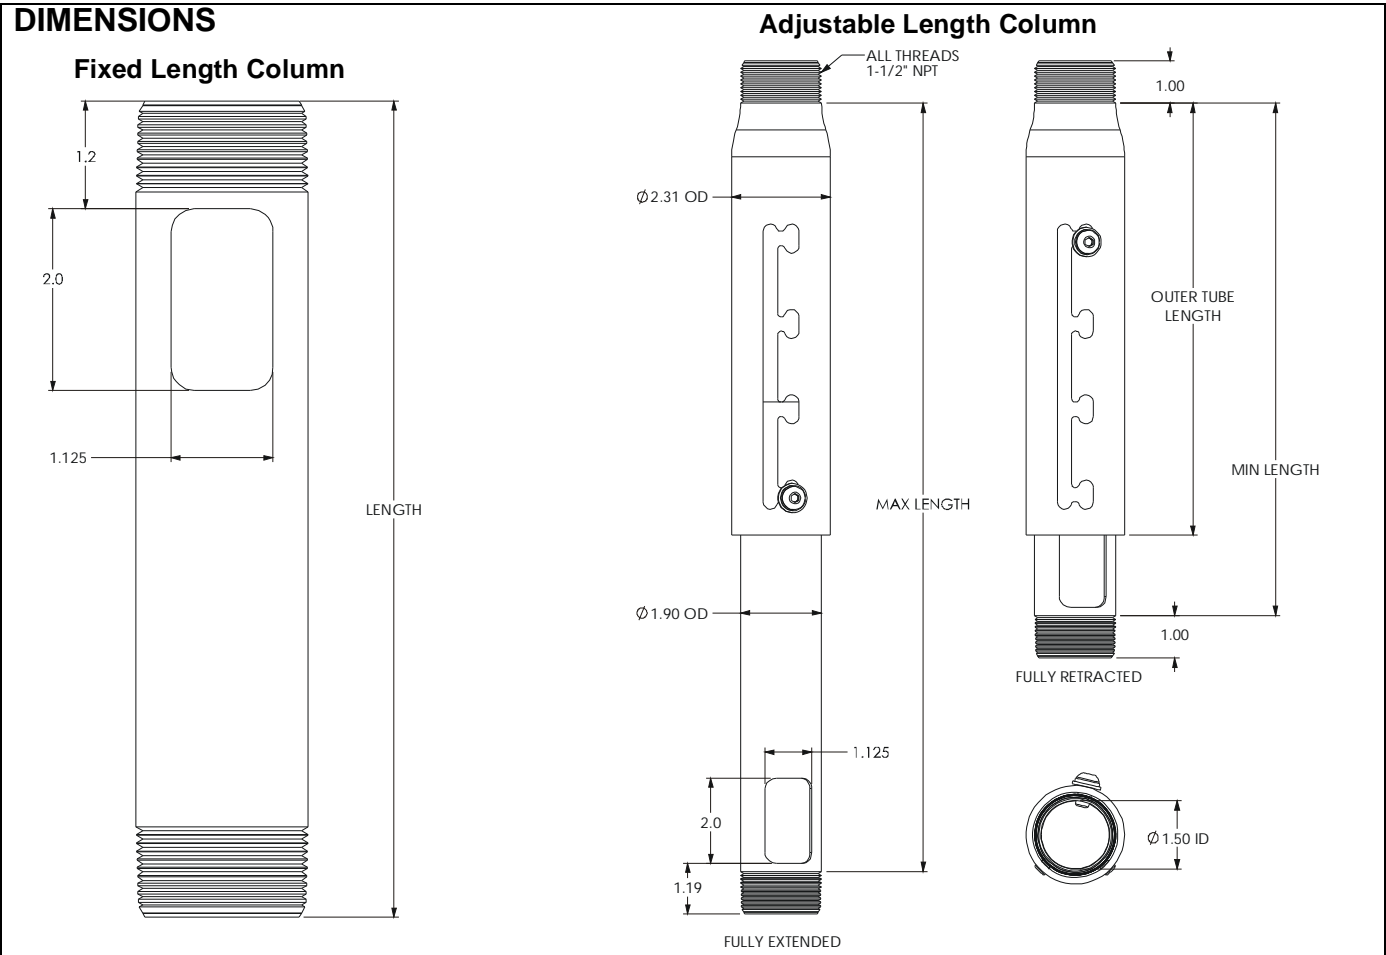

**Figure 4**
- Install and tighten set screws (standard (F) or security (H), as desired) using key (G) (See Figure 4).